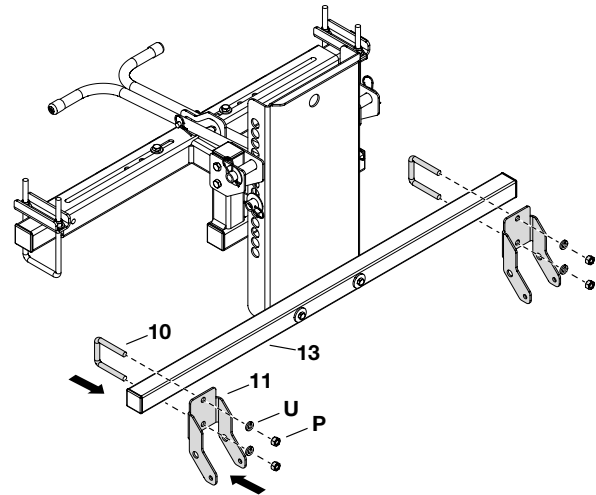

Figure 9
STEP 9: (SEE FIGURE 9)
- Attach mounting brackets (11) to the square tube (13) using two U-bolts (10).
- Secure the U-bolts with four washers (U) and four hex nuts (P).